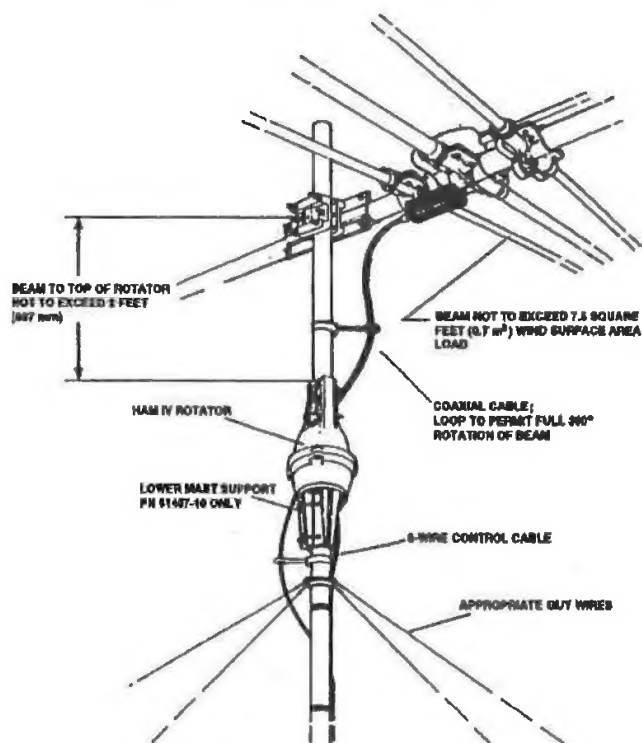

Figure 6
3. A telescoping or other type mast (see Figure 6) can also be used. This installation is similar to Number 2 above and requires the optional Heavy Duty Lower Mast Support Kit and must be derated to 7.5 square feet.